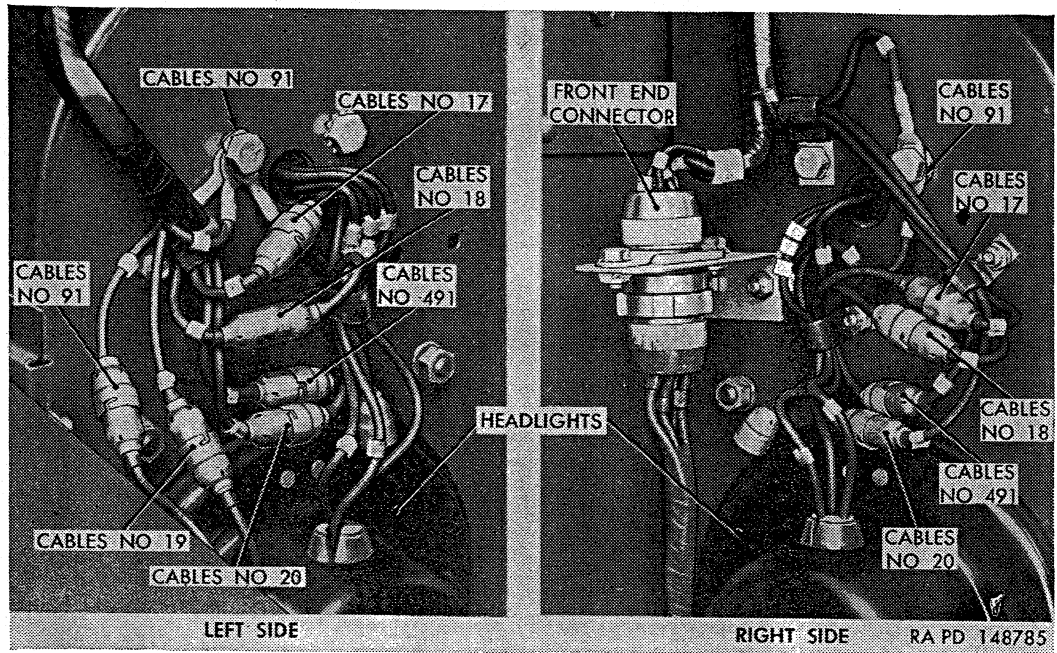
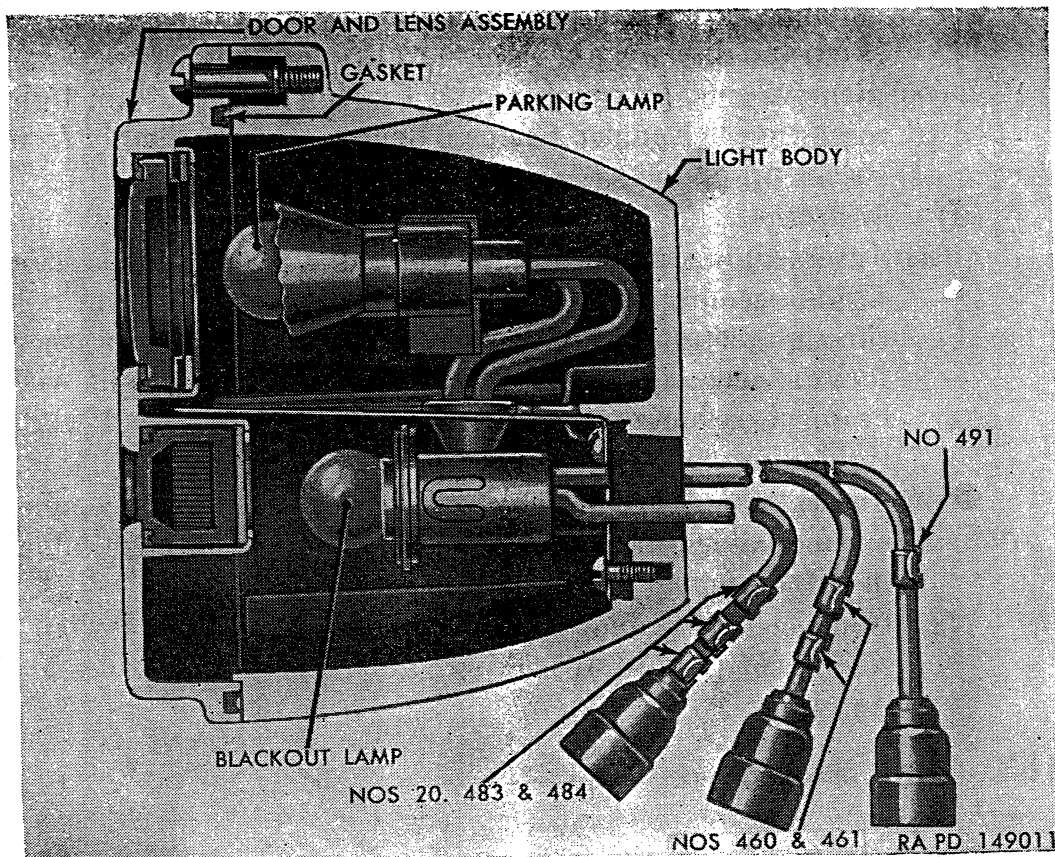

Figure 162. *Headlight and marker light wiring connections.*
Figure 165. Sectional view of front marker light.
- (a) Disconnect two headlight cables Nos. 17 and 18 at bayonet-type connectors shown in figure 162. Remove front marker light mounting cap screw and lockwasher attaching headlight ground cable No. 91 to radiator side baffle. Disengage ground cable from clip on radiator side baffle..
(a) Disconnect light cables from harness cables at rear of left radiator side baffle (cable Nos. 91 and 19, fig. 162). Remove
(c) Connect light cables to harness cables at rear of radiator side baffle (fig. 162), making sure numbers on cables are matched.
a. *Door and Lamp Replacement* (fig. 165).
(a) Disengage marker light cables from clip on back of radiator side baffle; then disconnect cables from harness at bayonet-type connectors (fig. 162).
(a) Insert light cables through hole in radiator side baffle and position light assembly against baffle. Attach light assembly to baffle with two  $\frac{3}{8}$ -16 x  $\frac{5}{8}$  cap screws and  $\frac{3}{8}$ -inch external-teeth lockwashers, making sure ground cables No. 91 (fig. 162) are secured under one cap screw head.
(b) Connect cable having three tags (Nos. 20, 483, and 484, fig. 165) to harness cable No. 20 (fig. 162). Connect cable hav-